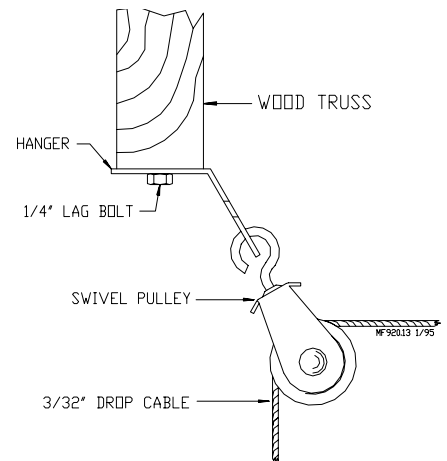

Figure 8. (End View)
2. After securing the Ceiling Hook to the truss, slide the hook of a Swivel Pulley into the slot, as shown in **Figure 8**.